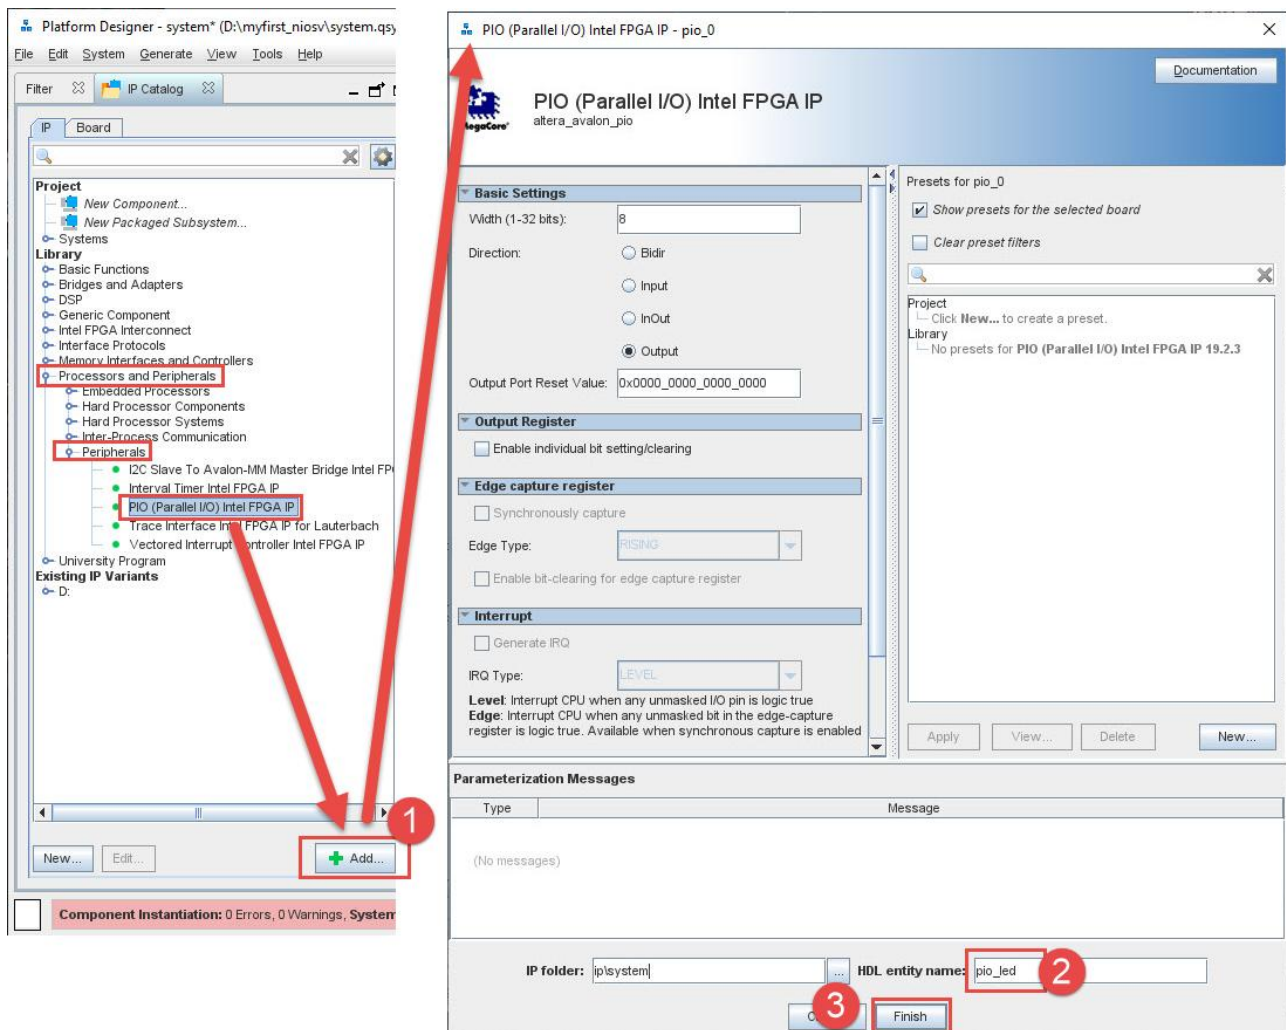

Figure 2-18 Add PIO
7. Choose **Library > Processors and Peripherals > Peripherals > PIO (Parallel I/O)** to open wizard of adding PIO. See Figure 2-18.